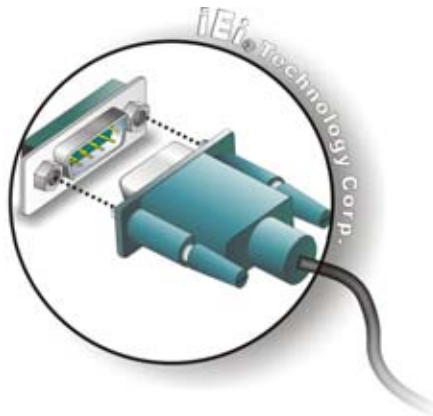

Figure 2-9: Serial Device Connector
Step 2: **Insert the serial connector.** Insert the DB-9 connector of a serial device into the DB-9 connector on the bottom panel. See Figure 2-9.